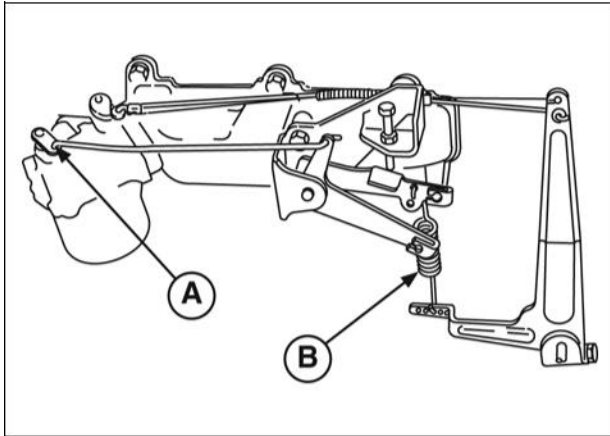

Figure 22
6. Assemble governor spring (A, Figure 22) to governor control lever (B).